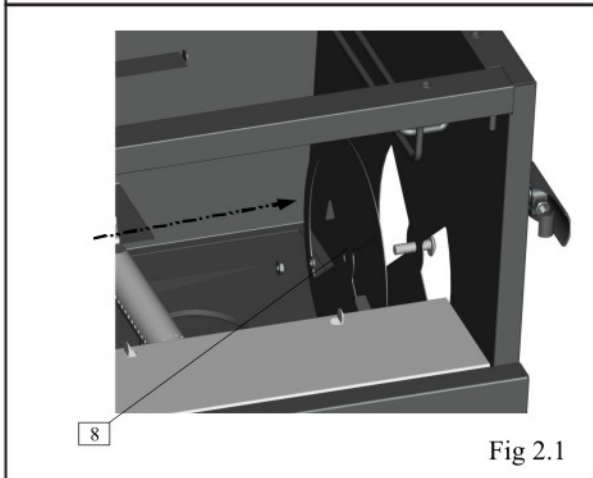

Fig 2.1
Procedure: Attach the damper to the inside of the right side of lower cabinet using (1) #10-24 x 1/2" bolts, (1) #10-24 hex. Nuts and (1) Φ5 washers. Repeat for left side of lower cabinet. Fig 2.1